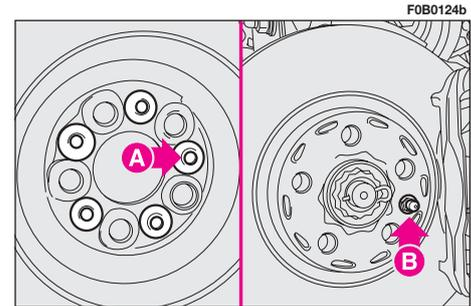

fig. 9
20) Fit the spare wheel making one of the holes **A**-fig. 9 coincide with pin **B**. Now tighten the five wheel bolts with the handle .